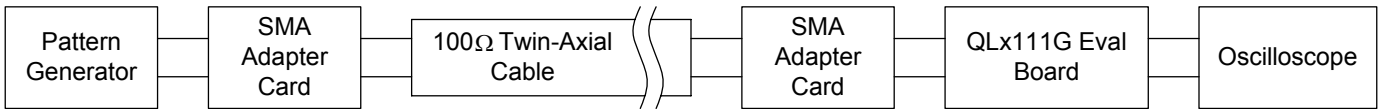
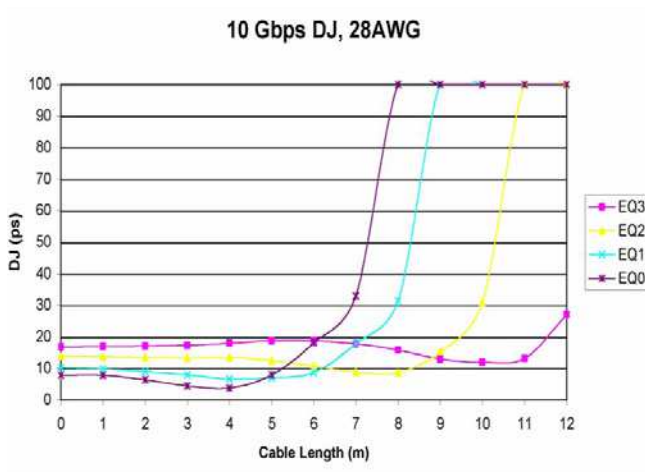

FIGURE 1. DEVICE CHARACTERIZATION SET UP
FIGURE 2. JITTER vs CABLE LENGTH AT 10Gb/ s (BOOST LEVELS 0-3)
Performance is measured using the test setup illustrated in Figure 1. The signal from the pattern generator is launched into the twin-ax cable using an SMA adapter card. The chip evaluation board is connected to the output of the cable through another adapter card. The QLx111GRx output signal is then visualized on a scope to determine signal integrity parameters such as jitter (Note 7).
- Prior to the tapeout, the data in Figures 2 and 3 represents simulations approximating the conditions of setup in Figure 1, not measured data.